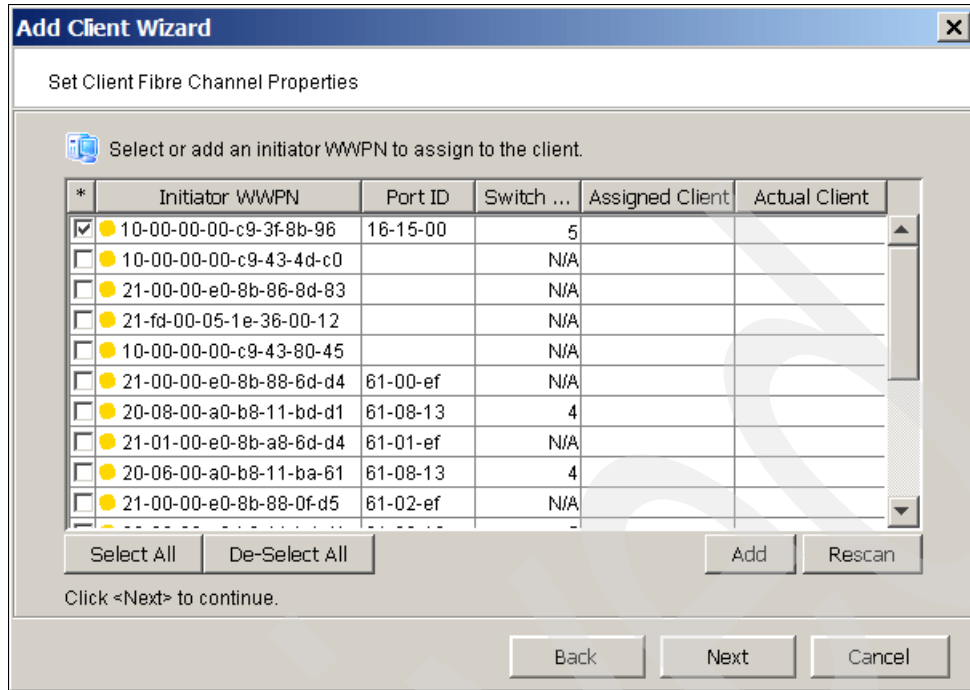

Figure 8-21 TS7500 - Specify WWPN of adapter in i5/OS
4. In the *Set Client Fibre Channel Properties* panel (Figure 8-21), select the WWPN of the client, and the WWPN of the Fibre Channel host bus adapter (HBA) that you want to add. The WWPN of the Fibre Channel HBA is printed on the card. You can also look for WWPN in i5/OS System Service Tools (SST).